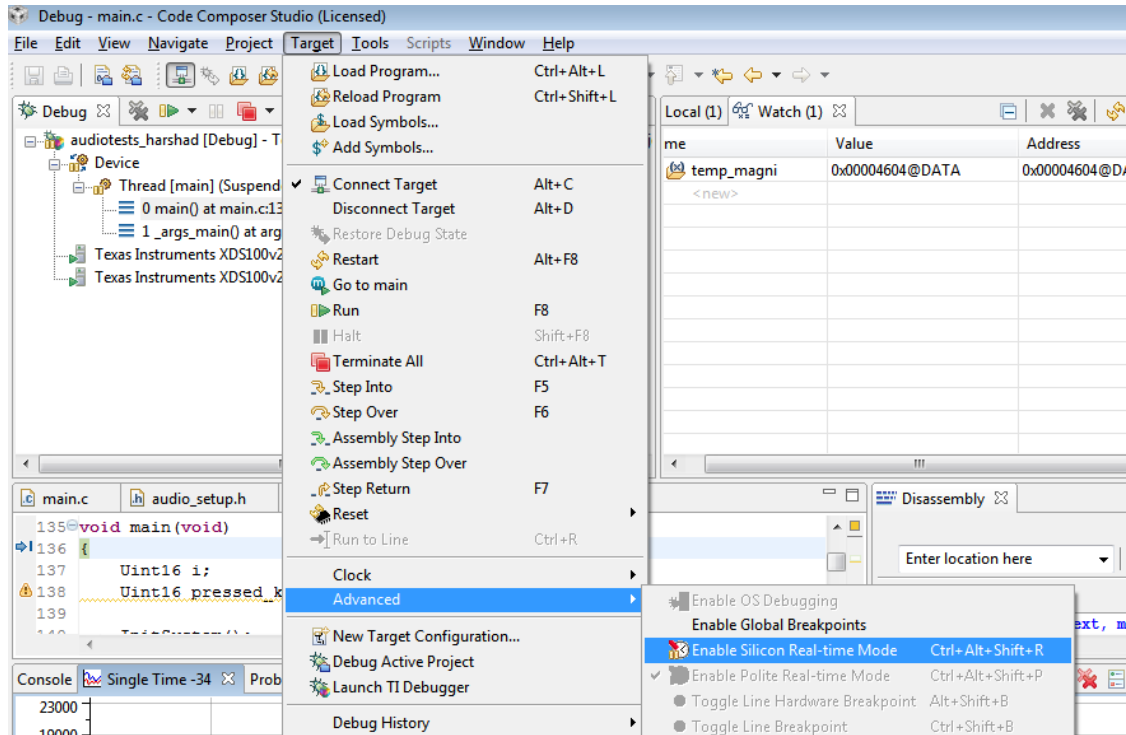

Figure 2: Selecting the Silicon-real time mode.
2. Go to Target ⇒ Advanced and select Enable Silicon Real Time Mode as shown in figure 2.